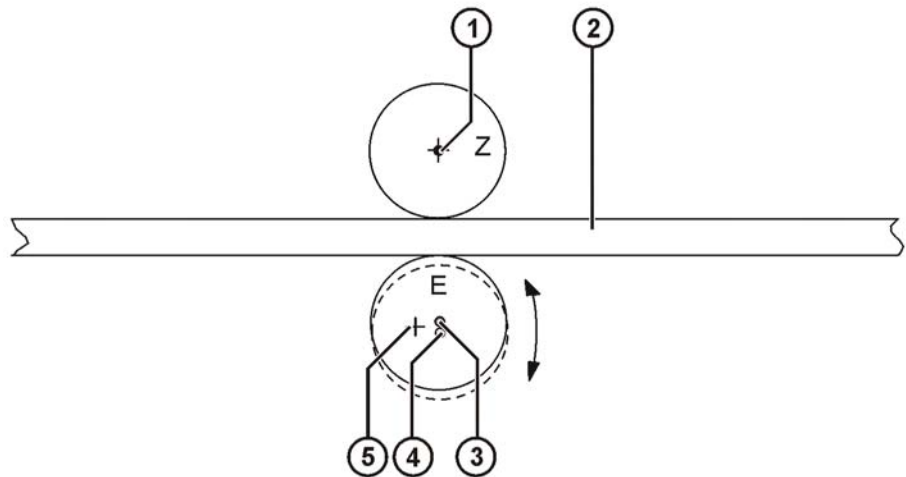

Fig. 10-5: Upper rollers, lower rollers
All carriage rollers must be in contact with the tracks. An eccentric is located in the square of the eccentric rollers (E) (>>> Fig. 10-5). By turning the eccentric with a torque wrench it is possible to position the eccentric roller (E) on the track in a defined manner.